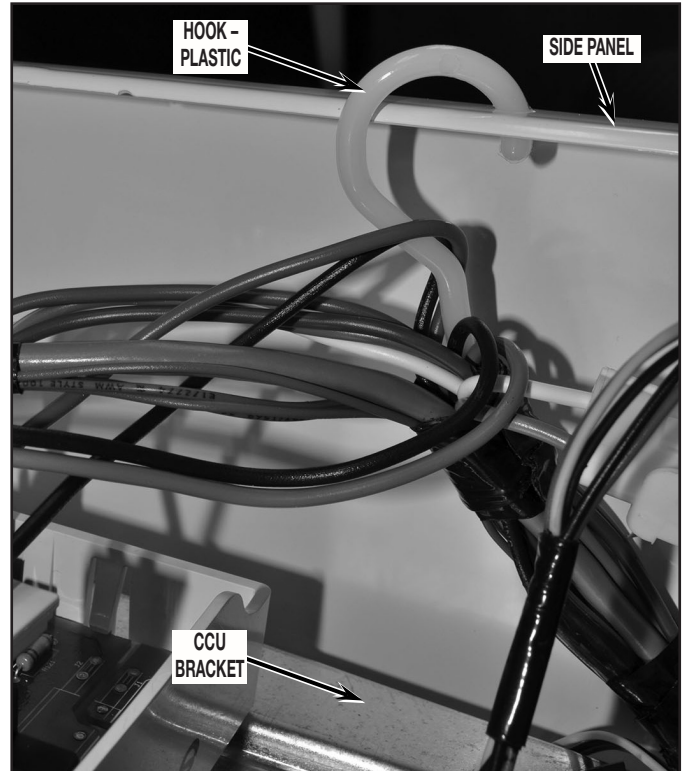

FIGURE 16
16. To gain further access to the burner assembly the drum will need to be removed. Before removing drum from dryer the CCU and bracket assembly must be secured in position to side panel using the plastic hook attached to the main harness. This will allow the CCU assembly to hang in place rather than dropping down when the drum is removed. See Figure 16.